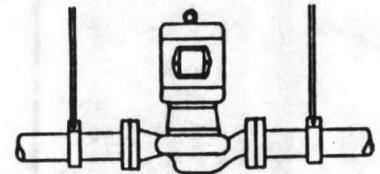

Fig. 2 Pipe Hanger Support
- Supported from the ceiling by pipe hangers (Fig. 2)